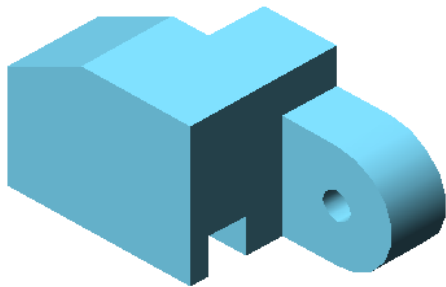

Figure Step 2A
Step 2 Using the SOLIDEDIT command only, edit the solid to appear as shown in the figures. (Figure Step 2A, 2B, and 2C)